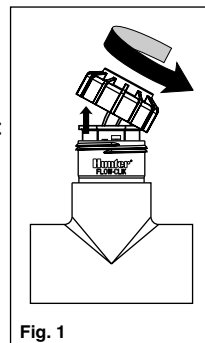

Fig. 1
2. Unscrew the cap from the top of the body (Fig. 1).